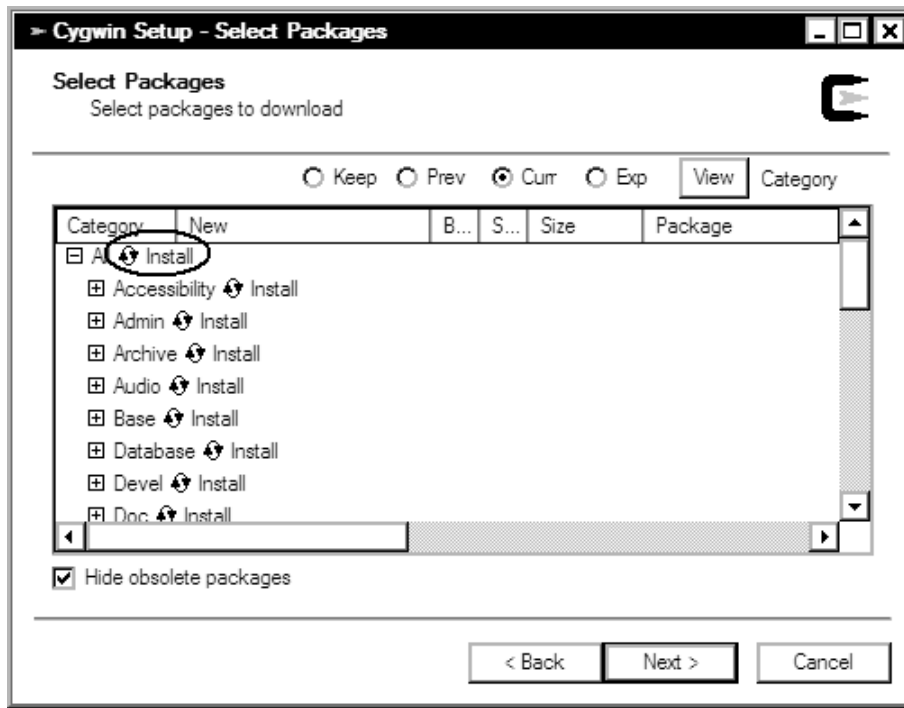

Figure 2-6. Cygwin installation: selecting what packages to install
9. Select the Packages you want (see Figure 2-6). The default set of packages is barely enough to get Cygwin running on your computer. For embedded development, you need to install more than the default. The selection process is a bit confusing. Figure 2-6 shows the packages organized by group; next to each group is text describing what will be installed, with all the groups set to Default. Clicking the Default text switches it to Install. Clicking the Default label next to the All tag installs all the packages, which is several hundred megabytes.